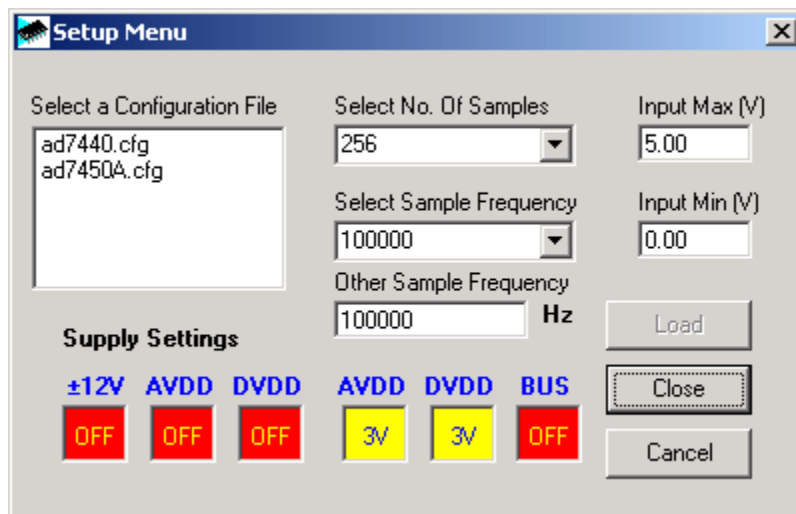

Figure 5. The Setup Screen
The configuration file also tells the software the name of the DSP program file, which should download to the evaluation board controller. The setup screen also allows you to choose the sampling frequency and the number of samples to take. Figure 5 shows the setup screen.
Select the **File** menu and click **Setup**. This displays the setup form (as shown in Figure 5). A window on the left of the setup form lists the available configuration files. The configuration files are text based files that contain information about the particular evaluation board to be tested. The information covers the part name, number of samples to be taken, default and maximum sampling frequency, power supply settings, etc. The configuration file also contains the name of the DSP program file that is to be downloaded to the EVAL-CONTROL BRD2.
**Setup Menu:** Selecting this option displays the Setup Screen as shown in Figure 5.